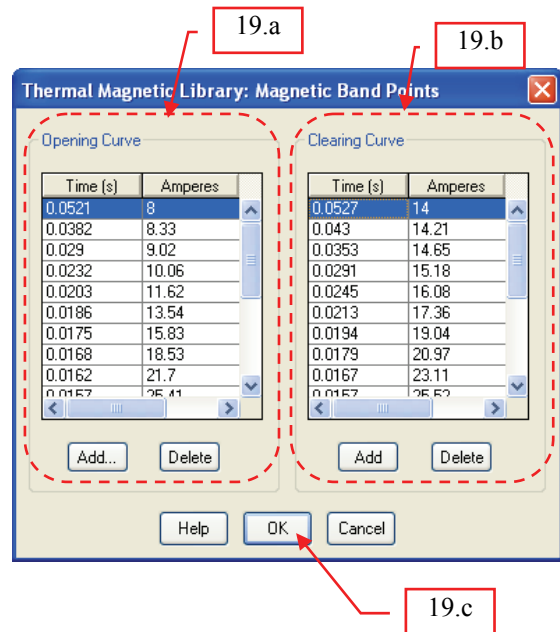

Fig. 22
19. In the “Thermal Magnetic Library: Magnetic Band Points” dialog box, do the following (see Fig. 22):
- b. Similarly, in the “Clearing Curve” frame (see Fig. 22), enter the 11 points given in column “Curve D” of “Table e: Locus of Points” on page 13.